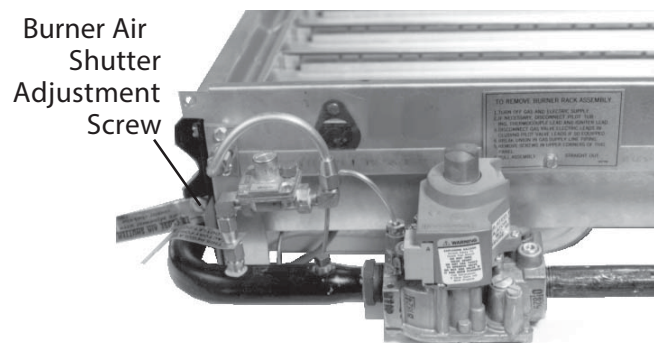

Figure 47. Burner Air Shutter Adjustment Screw
- Air shutters are required on propane gas units but are optional on natural gas units. A slotted burner air adjustment screw on the end manifold bracket (see Figure 47) moves the air shutters and adjusts all burners simultaneously. Turn the adjustment screw clockwise to open the air shutter or counterclockwise to close the air shutter.